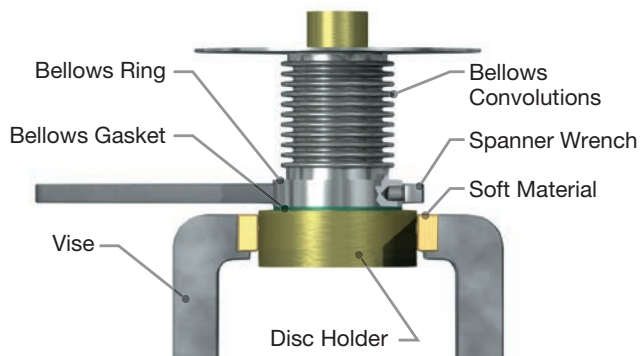

Figure 15: Removing the Bellows Ring
The bellows convolutions (see Figure 15) are very thin and fragile. Take care to protect them from damage.
11. Remove the guide (9) from the disc holder (8). (For restricted lift valves, see Checking Lift on Restricted Lift Valves.) For V and W orifice unbolt the bellows from guide before guide removal.
12. For D through U orifice bellows valves (see Figure 7), the bellows is attached to the disc holder (8) by right-hand threads. Use a special spanner wrench on the bellows ring to remove it by turning counterclockwise (see Figure 15).